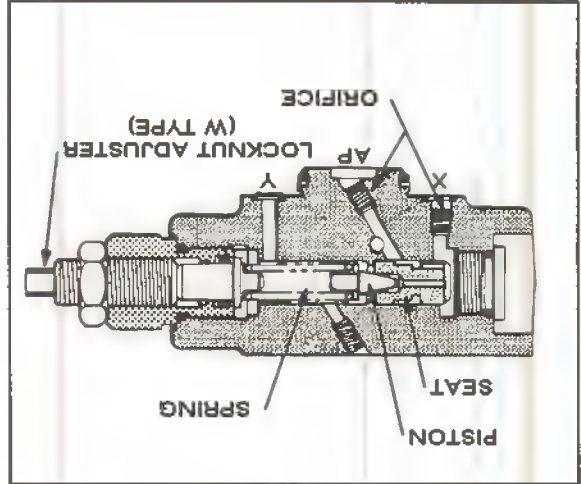
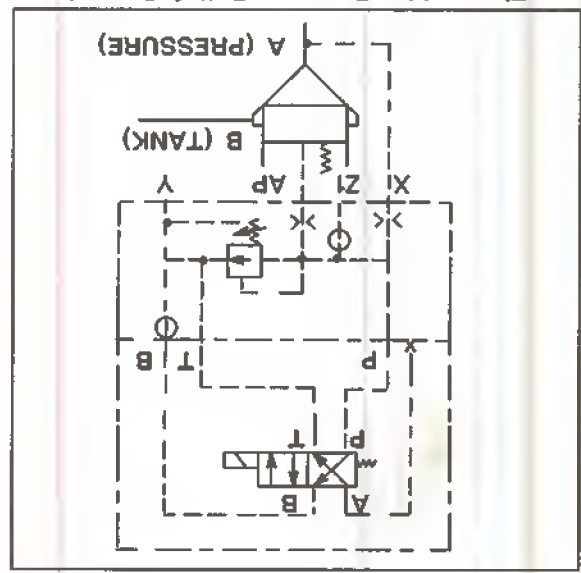

Figure 11. Pressure Relief Cover with Pilot Interface (C1 Function)
Figure 11a. Pressure Relief Operation with Pilot Interface
This cover assembly (shown in Figure 11) is available in the 16, 25, 32, and 40mm size and is used for mounting a pilot valve such as a DG4V-3-**-40 or CGE-02-**-22. The cover functions like the standard relief except the pressure from (A) is either blocked or directed to tank by the pilot valve. See Figure 11a. When the pilot valve solenoid is de-energized, the relief valve is vented to tank. The relief valve operates at its relief pressure setting, when the pilot valve solenoid is energized. The (Z1) port is a remote vent connection. Block the (Z1) port if the remote vent feature is not used.